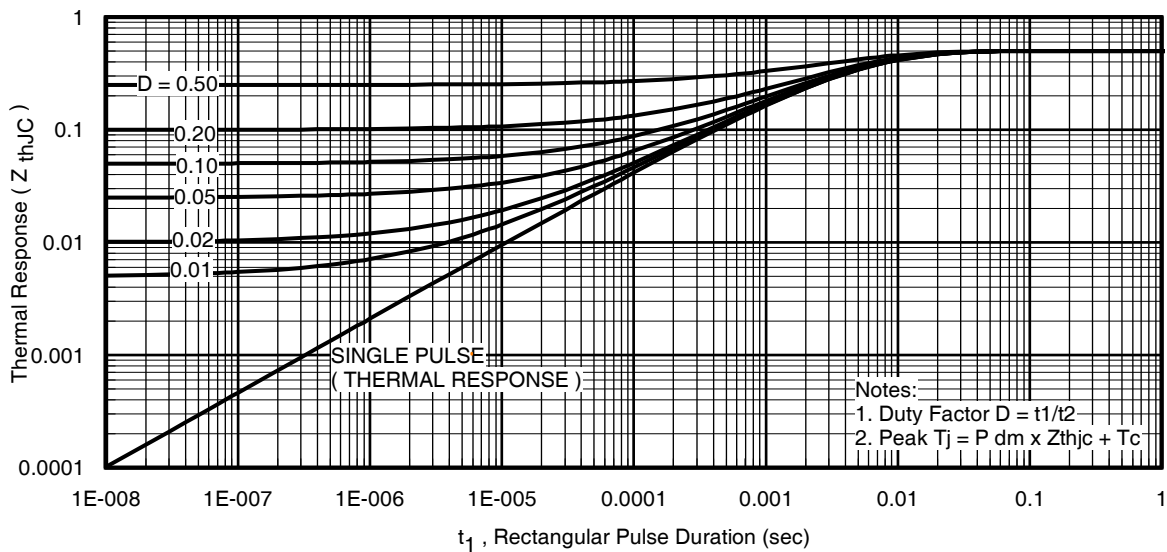
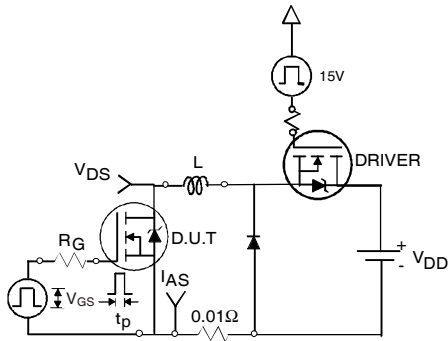

Fig 11. Maximum Effective Transient Thermal Impedance, Junction-to-Case
Fig 12a. Unclamped Inductive Test Circuit
- ① Repetitive rating; pulse width limited by max. junction temperature. (See fig. 11).
- ② Limited by T_{Jmax} , starting $T_J = 25^\circ\text{C}$, $L=0.24\text{mH}$, $R_G = 25\Omega$, $I_{AS} = 75A$, $V_{GS} = 10V$. Part not recommended for use above this value.
- ③ $I_{SD} \leq 75A$, $di/dt \leq 220A/\mu s$, $V_{DD} \leq V_{(BR)DSS}$, $T_J \leq 175^\circ\text{C}$.
- ④ Pulse width $\leq 1.0\text{ms}$; duty cycle $\leq 2\%$.
- ⑤ $C_{oss\ eff.}$ is a fixed capacitance that gives the same charging time as C_{oss} while V_{DS} is rising from 0 to 80% V_{DSS} .
- ⑥ Limited by T_{Jmax} , see Fig.12a, 12b, 15, 16 for typical repetitive avalanche performance.
- ⑦ This value determined from sample failure population. 100% tested to this value in production.
- ⑧ This is applied to D²Pak, when mounted on 1" square PCB (FR-4 or G-10 Material). For recommended footprint and soldering techniques refer to application note #AN-994.
- ⑨ Max $R_{DS(on)}$ for D²Pak and TO-262 (SMD) devices.
- ⑩ TO-220 device will have an R_{th} value of 0.45°C/W .
3. Equation below based on circuit and waveforms shown in Figures 12a, 12b.
$Z_{thJC}(D, t_{av})$ = Transient thermal resistance, see figure 11)